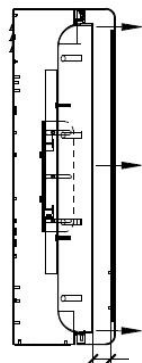

Figure6
**STEP 13:** A gap of 15mm must exist between the air curtain and the enclosure window, any less and you risk insufficient cooling to keep the display working (Figure6)